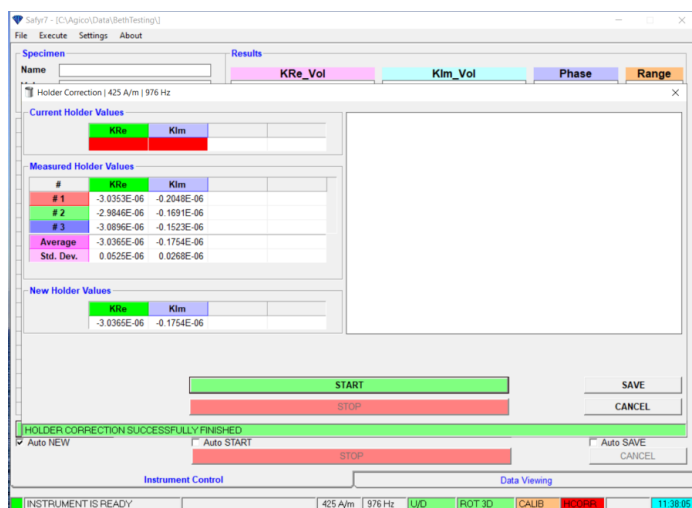

Figure 37: Bulk Susceptibility only window after holder correction measurement
- a. If the up/down manipulator is enabled, click **START** (Figure 37). The routine will be performed automatically.